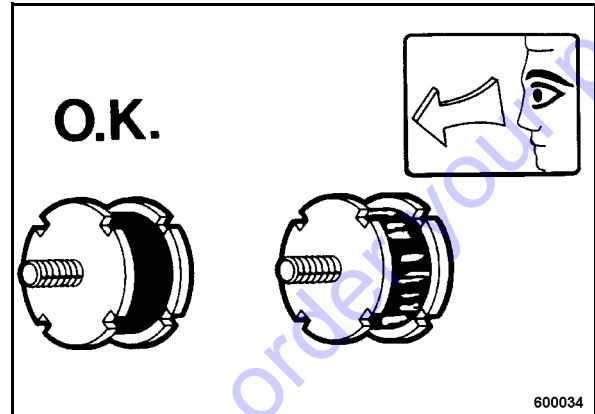

Fig. 47
- Check the condition and tight fit of all rubber buffers and exchange if necessary (Fig. 47).